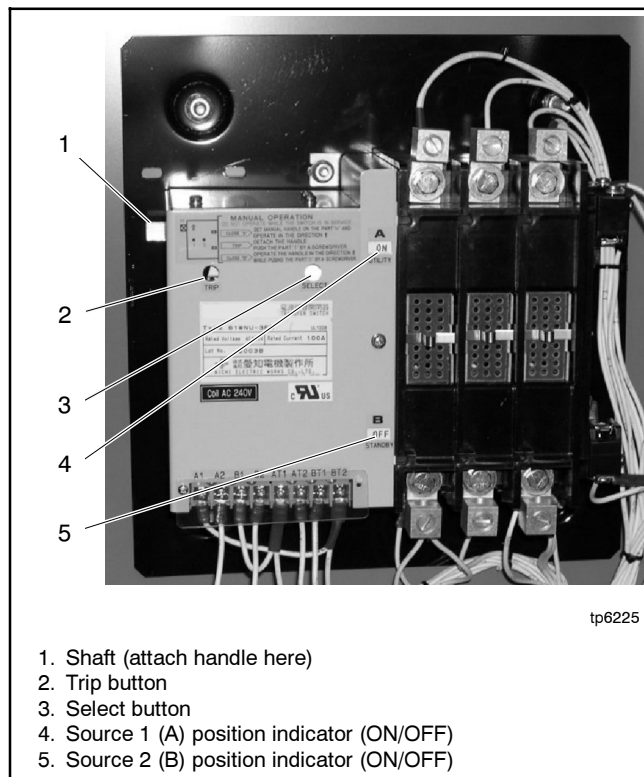

Figure 2-8 Manual Operation, Programmed-Transition Switches (handle not shown)
1. Check the contactor position, indicated by the A and B position indicators. See Figure 2-8. One position indicator will display ON to indicate the source position. If both indicators display OFF, the transfer switch is in the OFF position.
See Figure 2-8. Check that both position indicators display OFF.
3. Slide the manual operating handle (provided with the switch) over the shaft on the left side of the switch. See Figure 2-8.